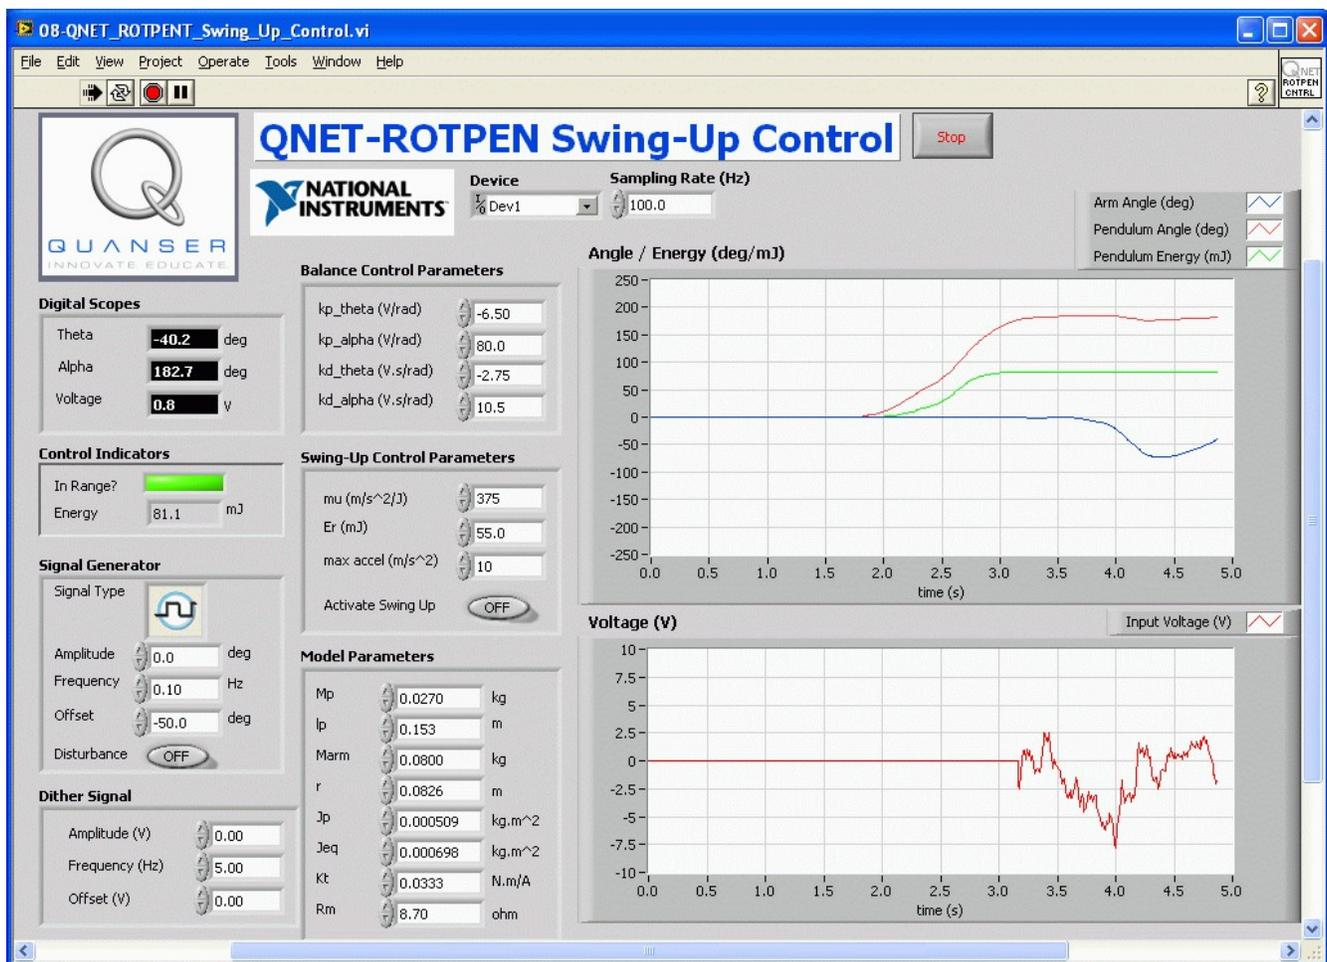

Figure 11: QNET rotary pendulum trainer swing-up VI.
1. Open the QNET_ROTPEM_Swing_Up_Control.vi, shown in Figure 11.